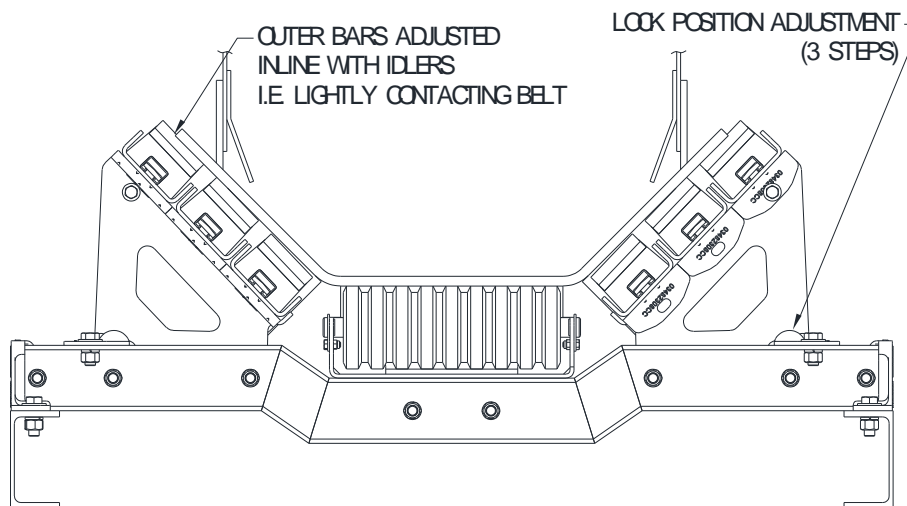

Figure 8 - Wing Adjustment
Step 13. By adjusting the wing lock part in 3 different positions, the outer bar is brought up to be in line with the troughing idler rollers (Fig 8). Care should be taken to ensure that the outer bar is as close as possible to the roller line. If the bar is too high, accelerated wear will result. If the bar is too low, the belt may sag, resulting in material spillage.